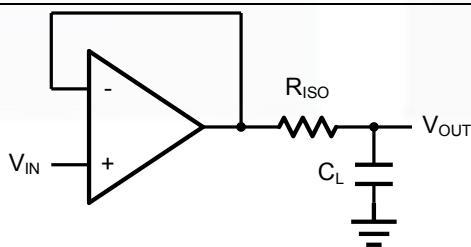
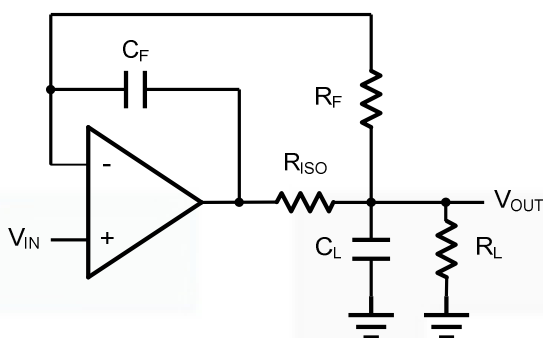

Figure 2. Indirectly Driving a Capacitive Load Using Isolation Resistor
Figure 3. Indirectly Driving a Capacitive Load with DC Accuracy
The GS805X family is optimized for bandwidth and speed, not for driving capacitive loads. Output capacitance will create a pole in the amplifier's feedback path, leading to excessive peaking and potential oscillation. If dealing with load capacitance is a requirement of the application, the two strategies to consider are (1) using a small resistor in series with the amplifier's output and the load capacitance and (2) reducing the bandwidth of the amplifier's feedback loop by increasing the overall noise gain. Figure 2. shows a unity gain follower using the series resistor strategy. The resistor isolates the output from the capacitance and, more importantly, creates a zero in the feedback path that compensates for the pole created by the output capacitance.
The circuit in Figure 3 is an improvement to the one in Figure 2. R_F provides the DC accuracy by feed-forward the V_{IN} to R_L . C_F and R_{ISO} serve to counteract the loss of phase margin by feeding the high frequency component of the output signal back to the amplifier's inverting input, thereby preserving the phase margin in the overall feedback loop. Capacitive drive can be increased by increasing the value of C_F . This in turn will slow down the pulse response.